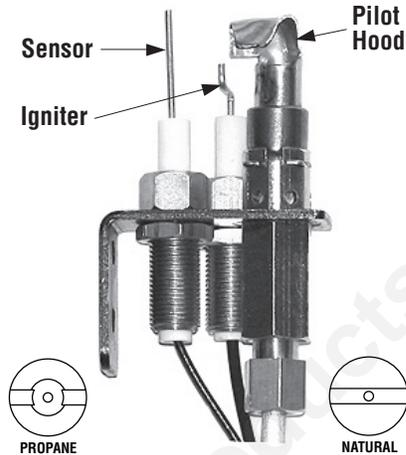

Figure 24
Step 5. See *Figure 24* and replace the pilot orifice as follows: Remove pilot hood assembly by grasping the hood and pulling the assembly straight up. Under the hood is the pilot orifice. With caution and using a magnetic screwdriver, undo the pilot orifice and remove it from the assembly. Carefully replace the orifice with the one provided with the kit. Press the pilot hood back over the assembly. The orientation should be aligned as shown in *Figure 24*. Exercise extreme care to prevent damage to or breakage of the igniter assembly.
NOTE: Propane pilot orifices are identified with a countersink in the head. Natural gas orifices do not have this countersink. See *Figure 24*.